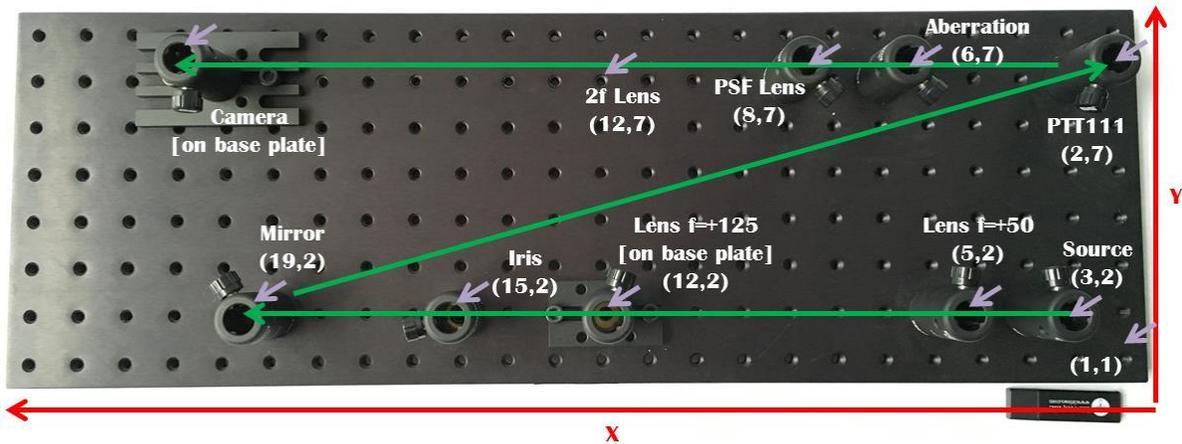

Figure 3: Iris AO Kit bench plate with post holders and base plates
- Screw seven post holders to the bench plate referencing the coordinates (2,7), (3,2), (15,2), (19,2) (6,7), (5,2), and (8,7). Then, screw two base plates to the bench with one post holder on each as in **Figure 3, below**.